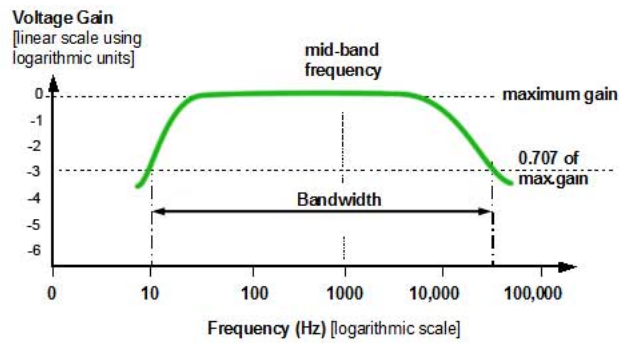

Figure 7: Bandwidth of an amplifier.
- See Figure 7 for sample bandwidth graph for an amplifier.